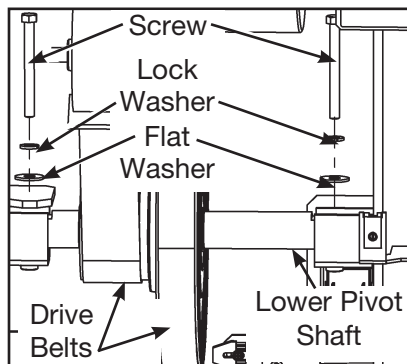

Figure 7
- A. Using a 7/16" socket wrench, remove the two screws, two lock washers and two flat washers from the lower pivot shaft. See Figure 7.